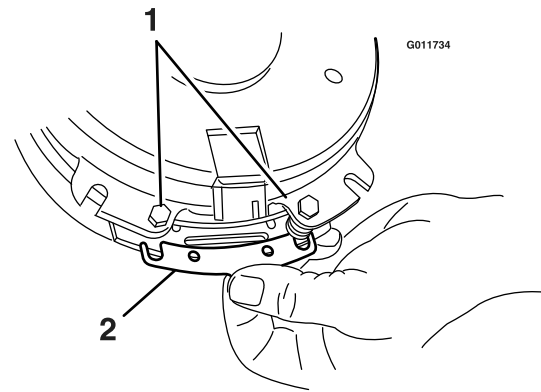

Figure 35
- A. Loosen both brake mounting bolts one-half to one full turn (see Figure 35).